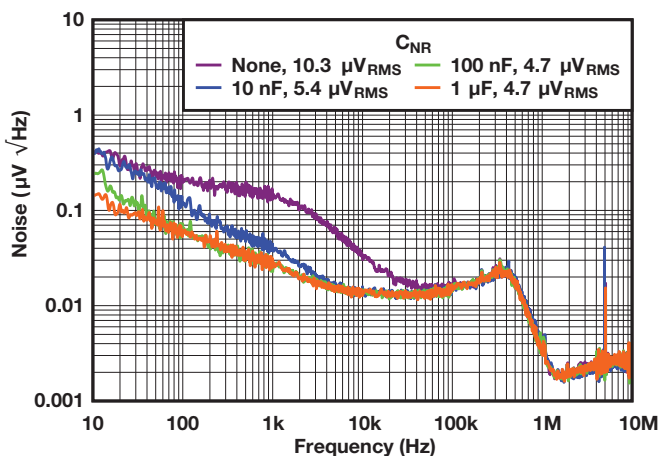

Figure 4: Noise spectral density of the TPS7A91 vs. frequency and  $C_{NR/SS}$ .
Adding a capacitor at this pin ( $C_{NR/SS}$ ) forms a resistor-capacitor (RC) filter with internal resistance, helping shunt undesirable noise generated by the voltage reference. Since the voltage reference is the main contributor to noise, increasing the capacitance helps push the cutoff frequency of the low-pass filter leftward. **Figure 4** shows the effect of this capacitor on output noise.
As **Figure 4** shows, a greater value of  $C_{NR/SS}$  yields better noise figures. At a certain point, however, increasing the capacitance will no longer reduce noise. The remaining noise emanates from the error amplifier, FET, etc.